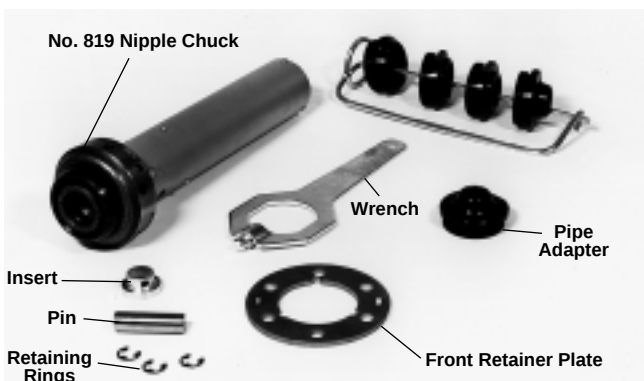

Figure 15 – No. 819 and No. 839 Assembly
1. The machine utilizes No. 819 Nipple Chuck and existing size adapter. Mounting requires a No. 839 Adapter Kit (*Figure 15*).